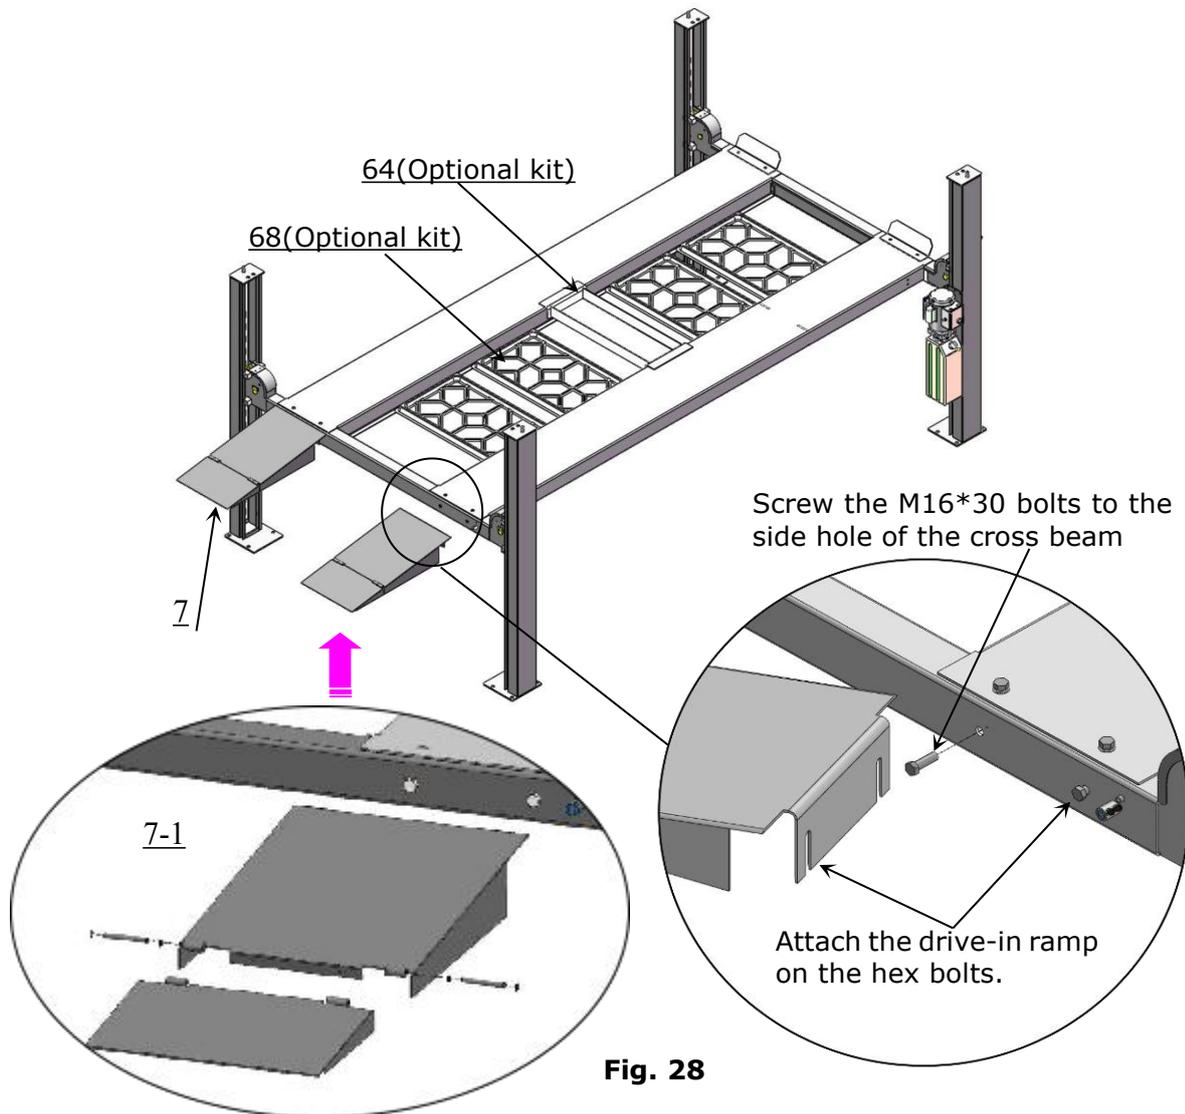

Fig. 28
N. Install drive-in ramp, jack tray and plastic oil pans (See Fig. 28).